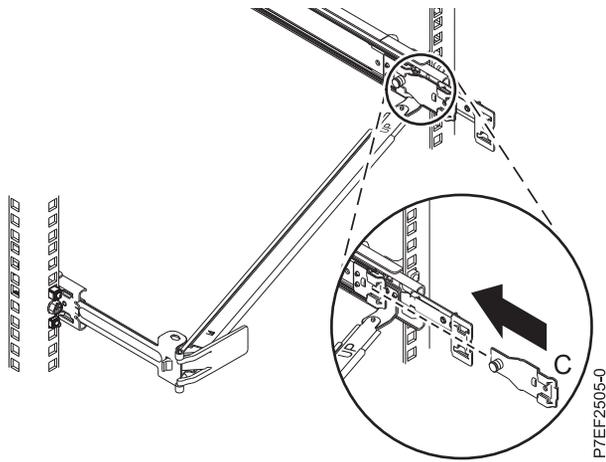

Figure 14. Installing the mounting bracket into the slide rail
- Attach the mounting bracket (C) to the slot on the inside of the right slide by sliding the mounting bracket (C) into the slide rail until the spring-loaded pin snaps into place. For details, see For details, see Figure 14 on page 11.